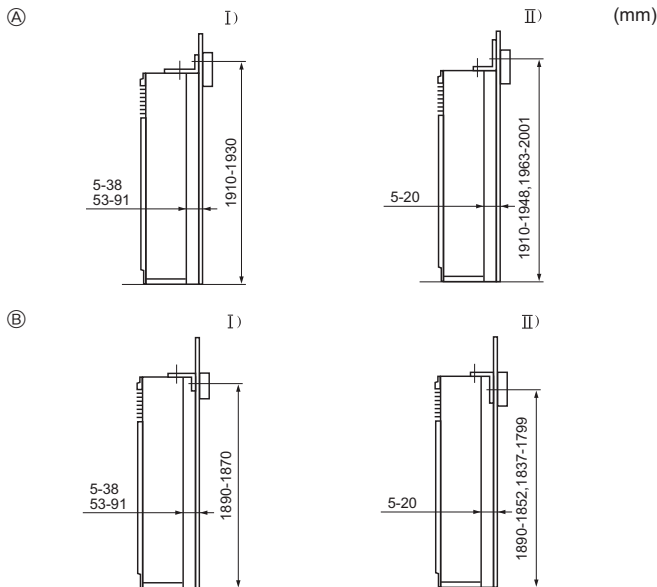

Fig. 3-3
- ① Tip-over prevention bracket
The tip-over prevention bracket ① is set on the top surface of the unit. Remove the tapping screws ②, and then reinstall the bracket, as shown in the illustration. For the proper installation distances, see Fig. 3-3.
- ② Screw
- Ⓓ Remove the screw ⑩ and then pull the grill forward to remove it.
3.3. Mounting the tip-over prevention bracket (Fig. 3-3)